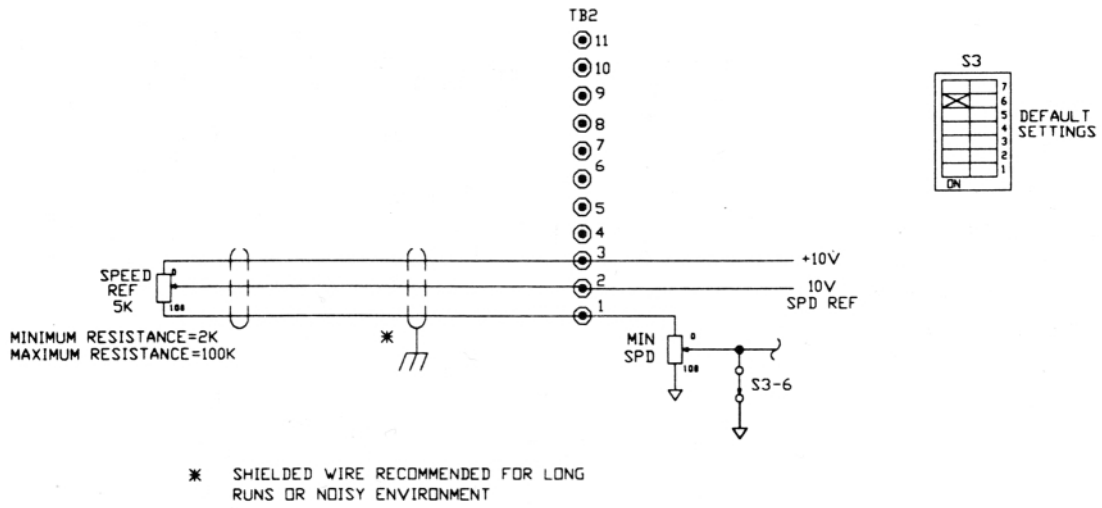

FIGURE 8. SIGNAL CONNECTION DIAGRAM, MOTOR SPEED POTENTIOMETER
9. If remote operator control wiring and/or signal wiring is required, connect the controller as shown in the appropriate connection diagram (Figures 2 through 15A). Figures 2 through 7 show operator control connections, and Figures 8 through 15 show signal connections.